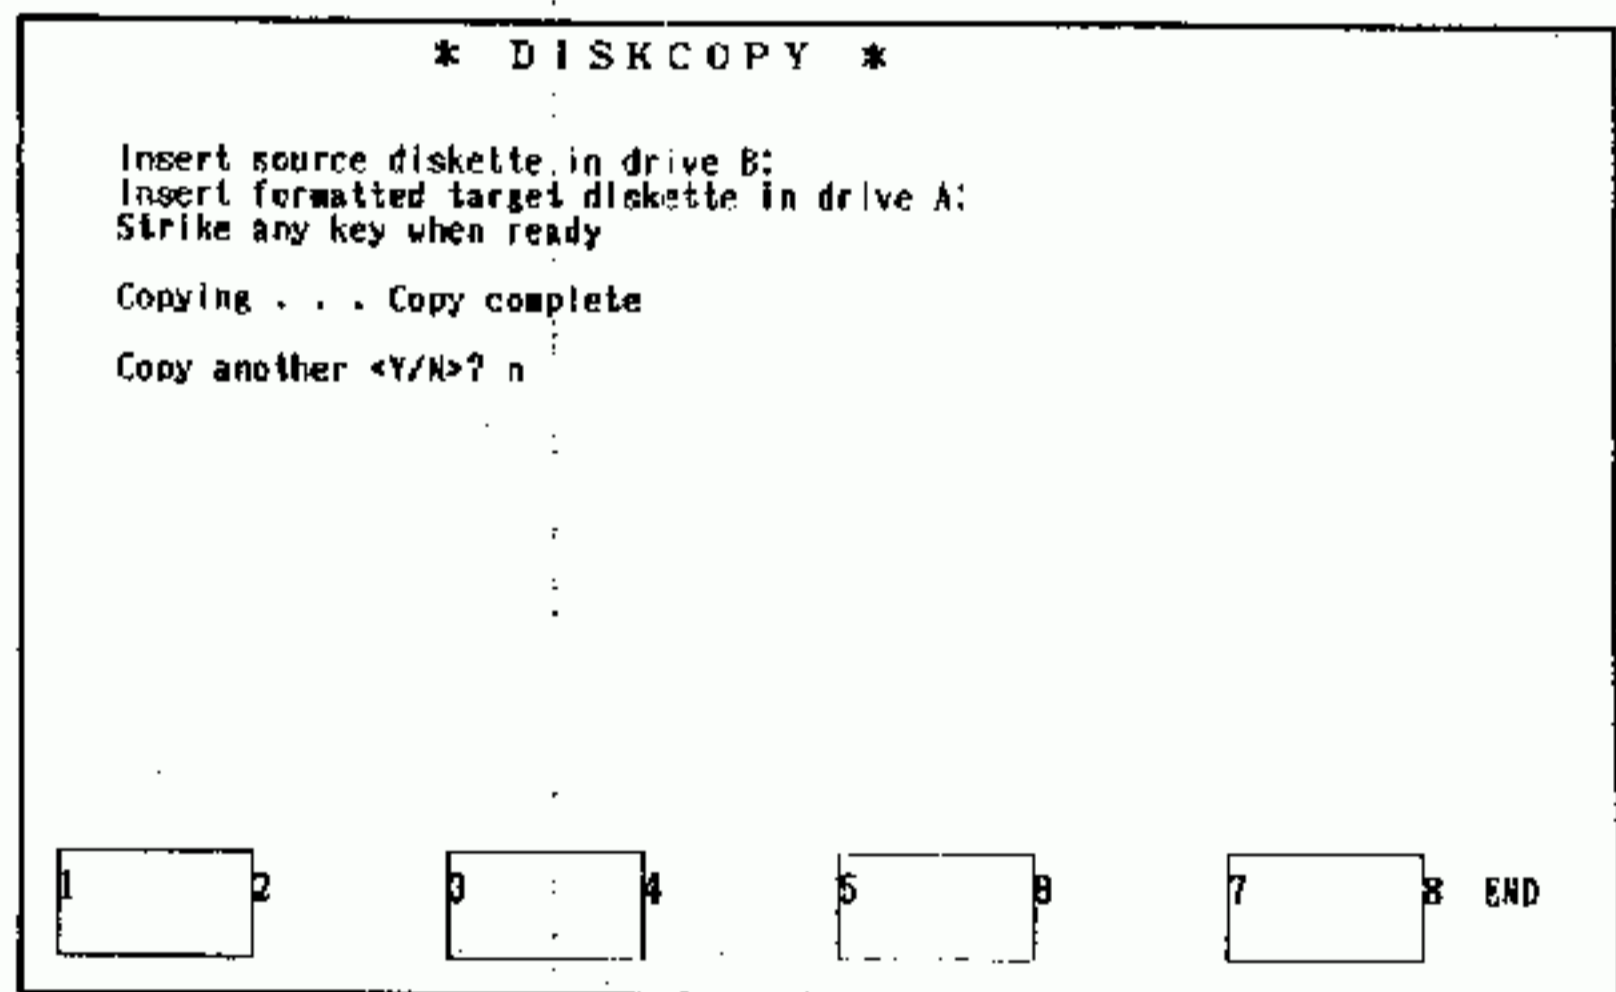

Fig. 5.2.162
3. To copy other disks in Fig. 5.2.162, first depress "Y" key, and then make the same operations as shown above.
(7) File Deleting